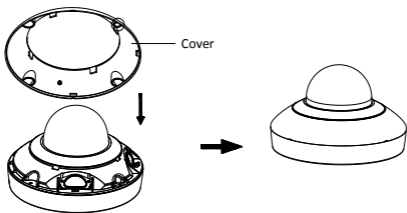

Figure 2-4 Install the Cover
- Align the cover with the camera, and install the cover back, as shown in Figure 2-4.